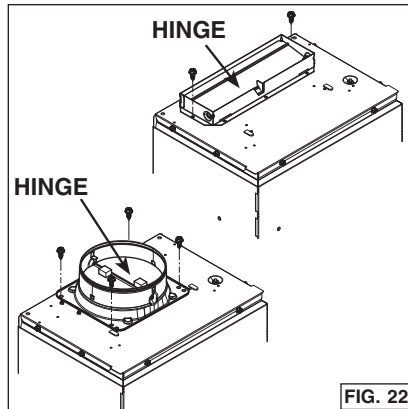

FIG. 22
10. For rectangular ducting, use 2 included no. 8-18 x 1/4" metal screws to attach the included 3/4" x 10" adapter damper on top of the unit, over the blower exhaust opening (FIG. 22).
For round ducting, use 4 included no. 8-18 x 1/4" metal screws to attach the included 6-in. round (or 8-in. round) adapter damper on top of the unit, over the blower exhaust opening (FIG. 22, 6-in. round shown).